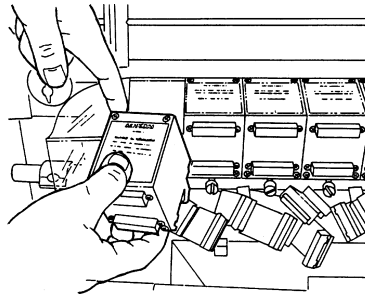

**Figure 7-3
8. Rotate each module to be removed, in turn, forward slightly and lift to remove. See Figures 7-3 and 7-4.